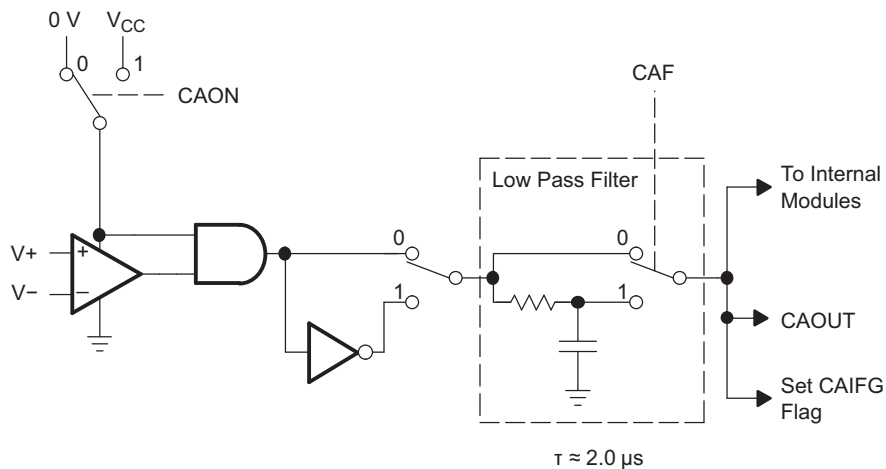

**Figure 16. Block Diagram of Comparator\_A+ Module**
| t (response)           | Response time(low-high and high-low)                    | T A = 25°C, Overdrive 10 mV,Without filter: CAF = 0 (3)(see <a href="#">Figure 16</a> and <a href="#">Figure 17</a> ) | 2.2 V           | 80   | 165  | 300                 | ns   |
|                                   |                                                             | T A = 25°C, Overdrive 10 mV,With filter: CAF = 1 (3)(see <a href="#">Figure 16</a> and <a href="#">Figure 17</a> )    | 2.2 V           | 1.4  | 1.9  | 2.8                 | μs   |